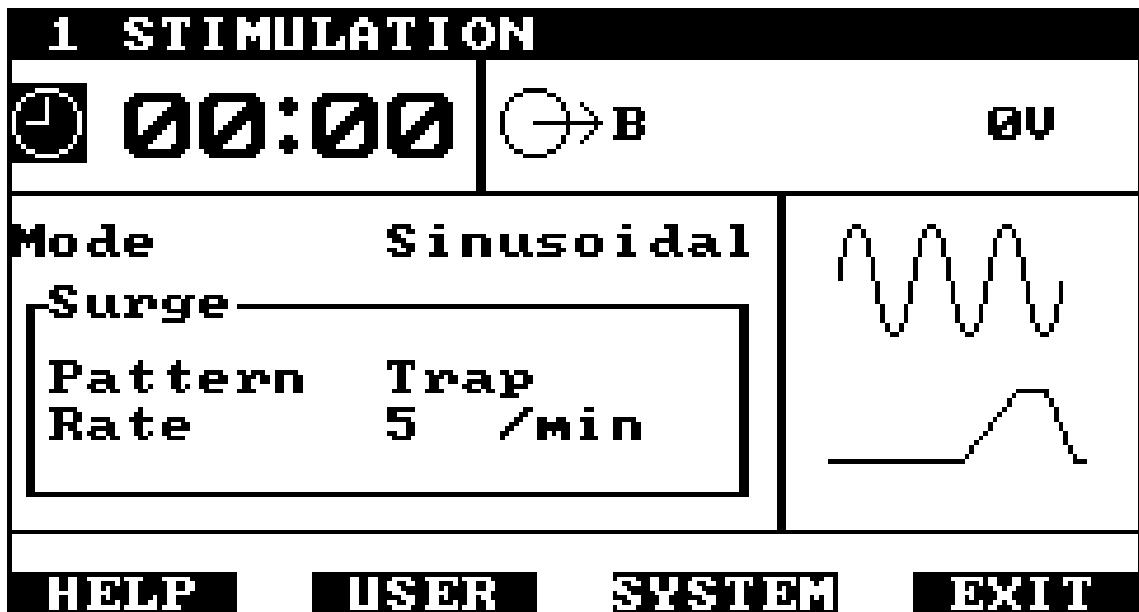
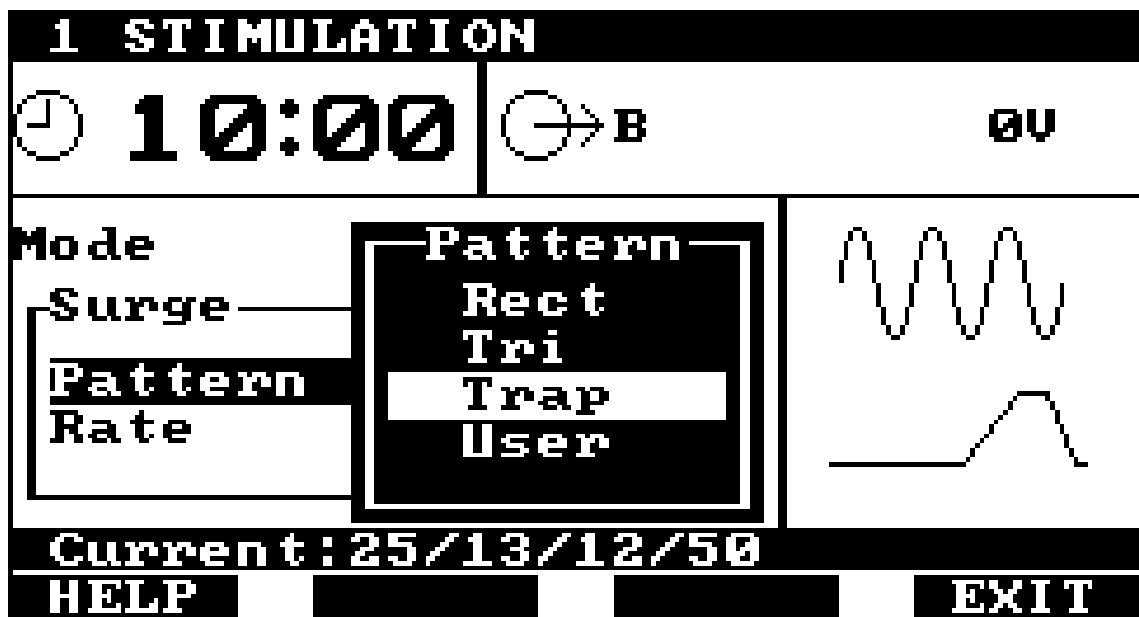

Figure 6 - Stimulation Set-Up
Figure 9 - Setting the Surge Pattern
3. The Medi-Link will run the Stimulation program and the display will change to show the Stimulation Set-Up (figure 6). All the current settings of the module are displayed and in the box on the right of the display is a small graphic representation of the current waveform.
8. In sinusoidal mode, the remaining options determine how the output is surged during treatment. The graphic display on the right hand side of the display shows a sinewave at the top and at the bottom, a graph showing how the output amplitude varies with time during one surge cycle starting with the rest period (figure 6).
Alternatively, if the ENTER key is pressed when the label Pattern is highlighted, a sub-window will appear (figure 9). The available options will be displayed in the sub-window with the current setting highlighted. Also the rise, hold, fall and rest times for the current selection are shown as percentages of the total surge cycle in a highlighted bar just above the function key labels. Use the up and down arrow keys to highlight the required surge pattern and confirm the selection by pressing the ENTER key. If one of the standard patterns has been selected, the system will return to the main sinusoidal mode set-up screen (figure 6) and display the new pattern.
Press F4 to return to the surge pattern selection screen (figure 9) without accepting the entered pattern.
Pressing F4 while the user sub-window is displayed will always return to the pattern selection screen (figure 9)